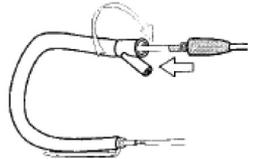

Fig. 4-6B
3. Hold the Tension Guide boot in one hand, the “Y” connect in the other and screw the “Y” connect clockwise until it is securely fastened to the Tension Guide. Do not over tighten. (See Figure 4-6B)